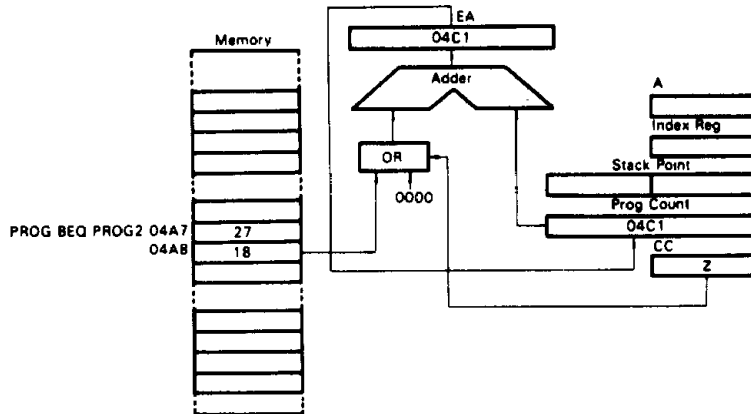

Figure 33 Example of Relative Addressing
See Fig. 33. The relative addressing mode is used with branch instructions only. When a branch occurs, the program counter is loaded with the contents of the byte following the operation code.  $EA = (PC) + 2 + Rel.$ , where Rel. indicates a signed 8-bit data following the operation code. If no branch occurs, Rel. = 0. When a branch occurs, the program jumps to any byte in the range +129 to -127. A branch instruction requires a length of 2 bytes.